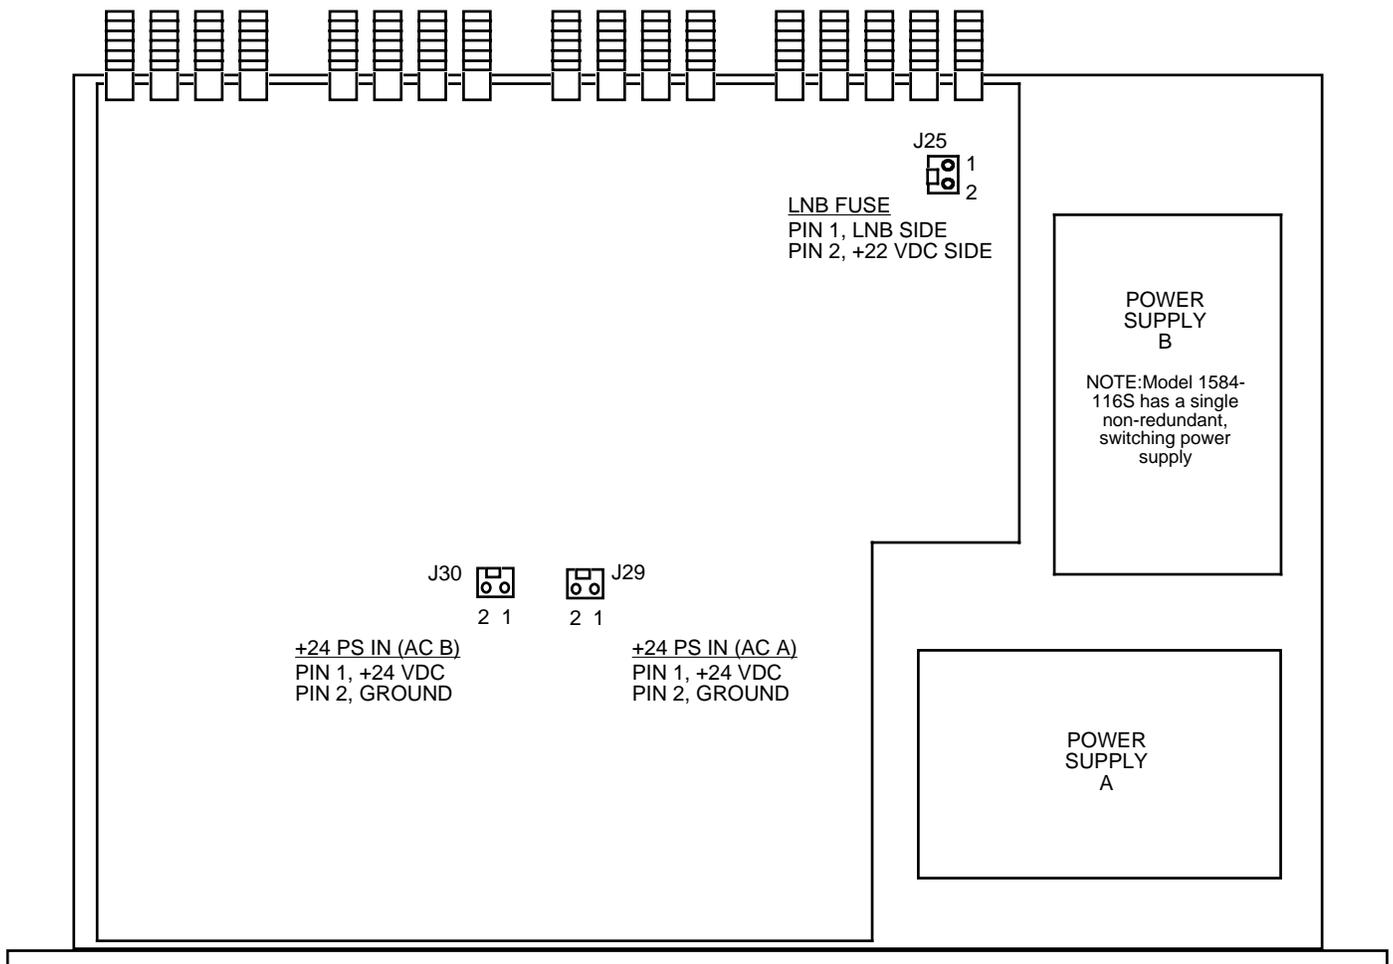

FIGURE 2.0 1584-116 MECHANICAL ASSEMBLY
2.1 Mechanical - The 1584-116/116S consists of one RF printed circuit board (PCB) housed in a 1 RU (1.75 inch high) by 12 inch deep chassis. Redundant, switching, +24 VDC power supplies with the DC output diode OR'd provide redundant power for the internal and external amplifiers and LEDs. (Model 1584-116S has a single non-redundant, switching power supply). Connectors are type F, female for the RF connections (BNC, female option -B or -D). The 1584-116/116S can be secured to a rack using the 4 holes on the front panel. Figure 2.0 shows how the 1584-116/116S is assembled. J25 connects DC Power to the fuse as shown and J30 and J29 connect the DC voltage from the power supplies to the PCB as shown.